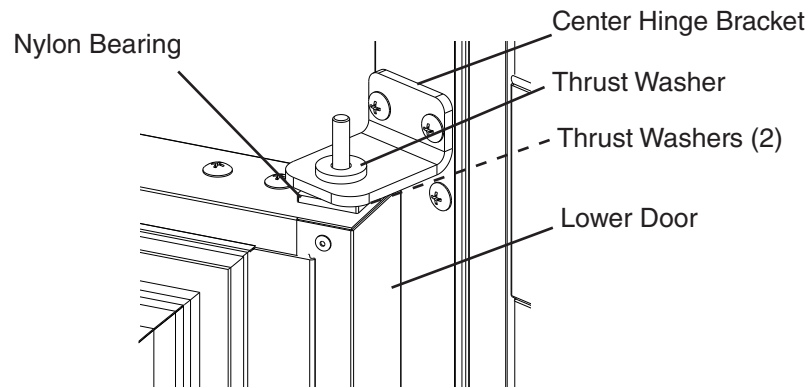

Fig. 34
- 13) Place the center hinge bracket lower pin with thrust washer into the nylon bearing on top of the door. Secure the center hinge bracket to the cabinet. See Fig. 34.